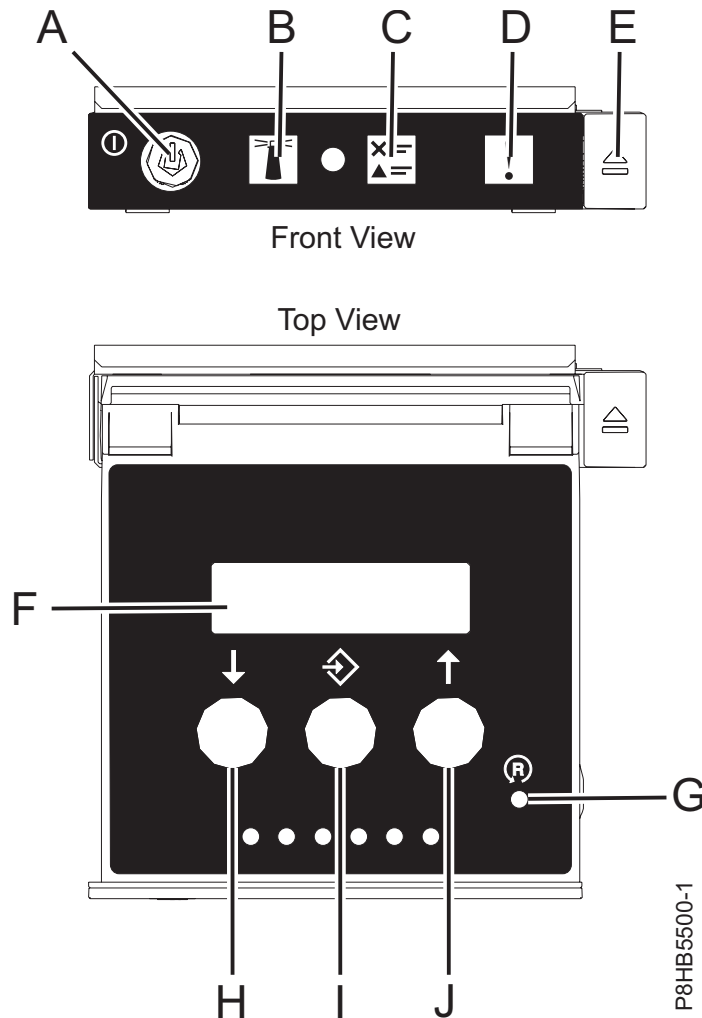

Figure 219. Pinhole switch that is on the control panel
If you are still not able to access the service network, reset the service processor by pressing the pinhole switch (G) on the control panel. See Figure 219 on page 216.